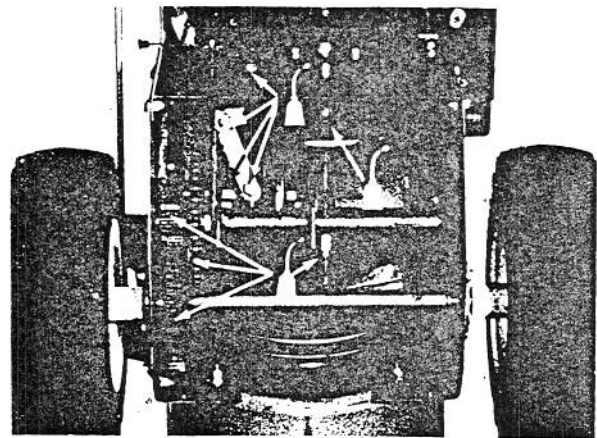

Figure 28
2. First, drain gasoline from fuel tank. Second, tip snowthrower onto auger housing and block it so it cannot fall. Now remove four thread forming screws holding rear shield in place, and slide shield away from traction unit. Next, lightly lubricate drive chains, sprocket bushing, nylon ring, hex shaft, and the other pivot points with SAE 10W-40 oil (Fig. 28). Wipe up any excess oil. Lastly, install rear shield with four thread forming screws.